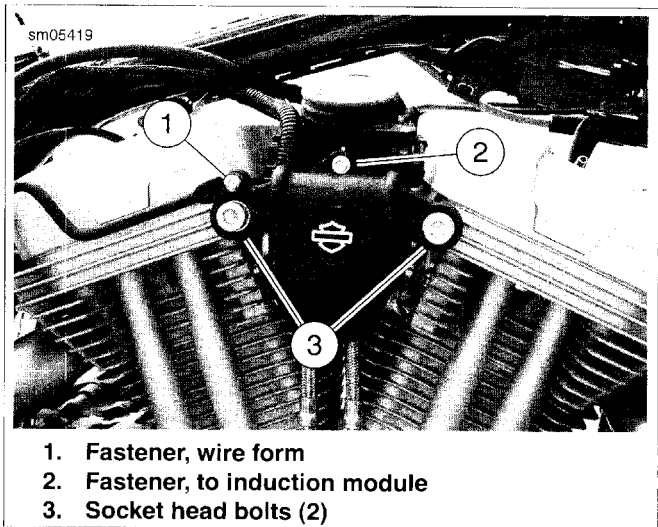

Figure 4-64. Induction Module Cover
2. See Figure 4-64. Remove socket head bolts (3), fastener (1) and fastener (2).
5. See Figure 4-64. Rotate induction module cover into place between cylinder heads. Install fasteners (1, 2, 3) finger tight.
6. Tighten socket head bolts (3) to 20-24 ft-lbs (27.1-32.5 Nm). Tighten fastener (2) to **84-108 in-lbs** (9.5-12.2 Nm). Tighten fastener (1) to **84-108 in-lbs** (9.5-12.2 Nm).